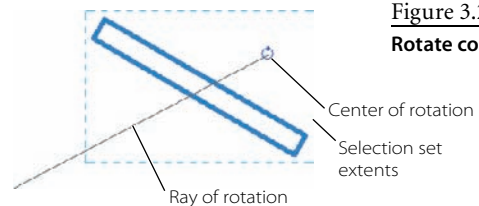

**Figure 3.21**
- When moving and copying elements, specify a distance with the listening dimension (Figure 3.21) to move in the direction you move the mouse pointer. Specifying a negative dimension value will move the element in the opposite direction of the mouse pointer.